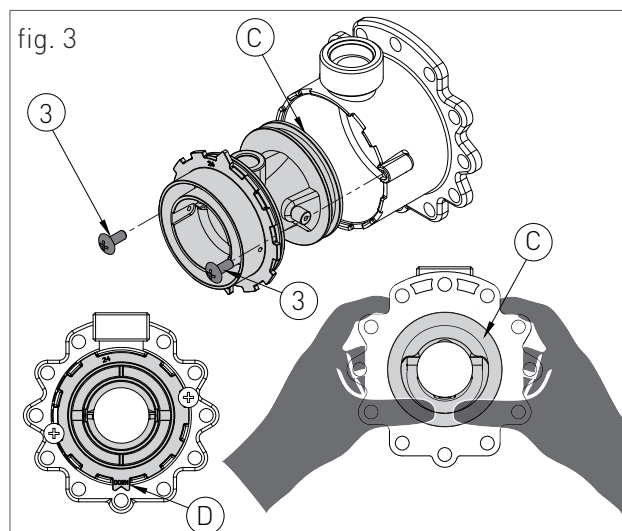

fig. 3
- › remove the two screws '3' (fig.3) and apply pressure on the rear side of venturi 'C' (fig.3);
- › replace the body venturi with the one suitable for the type of supply gas (cod. 30-00207 for Natural gas / cod. 30-00201 for Universal LPG) and make sure the tooth 'D' (fig.3) is adjusted downwards on the aluminium ring nut (see fig.3);